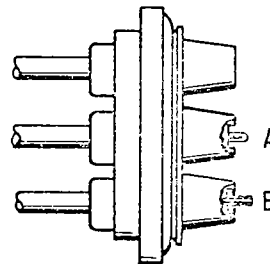

Figure 4-8. Wire Doubled Over for Installation of Eyelet
h. Cut the wire 3/8 inch from top of grommet outlet. Double wire over. Slide eyelet over doubled wire until it is firmly seated in recess of grommet outlet. See figure 4-8.